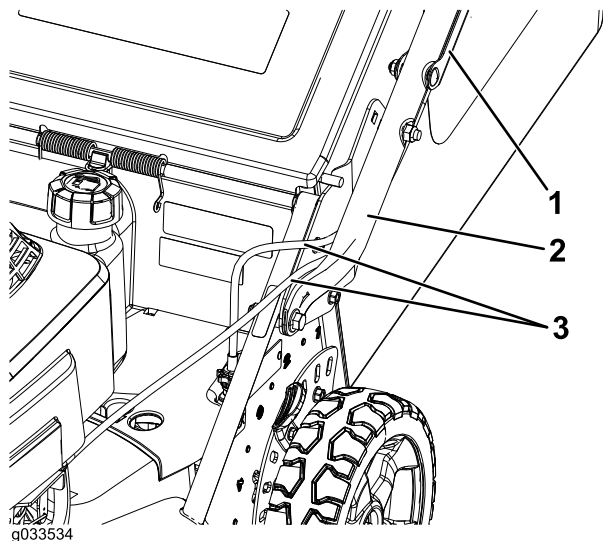

Figure 4
4. Route the control cables between the deck and the handle to protect the cables from being damaged (Figure 4).